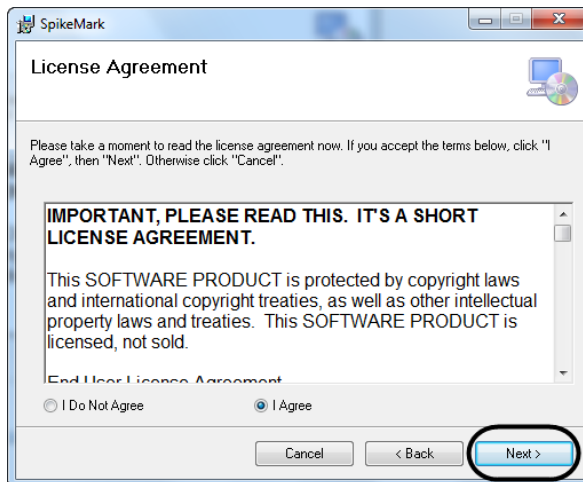

Figure 5
7. In the **License Agreement** window, read the agreement, select **I Agree** and click **Next** (Figure 5).